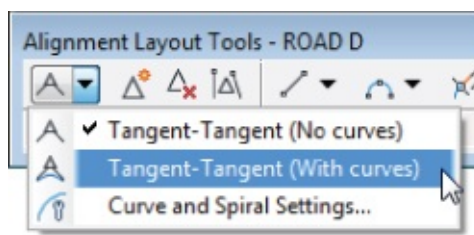

Figure 6.10 The Tangent-Tangent (With Curves) tool
- Click the down arrow next to the Tangent-Tangent (No Curves) tool at the far left, and select the Tangent-Tangent (With Curves) option (see Figure 6.10).